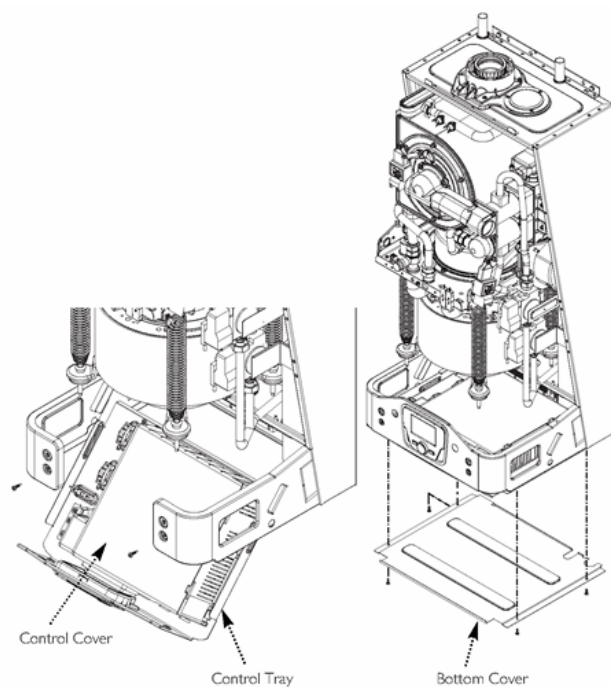

Fig. 68
14.16 PCB Main (Figs. 68,69 &70)